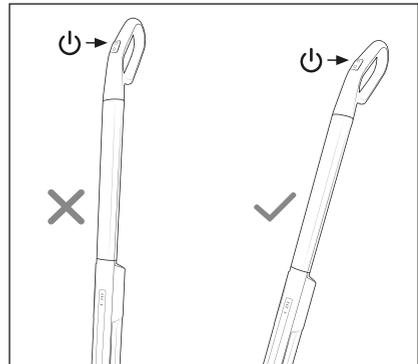

Fig. 8
- ▶ When not in the charger **9**, the appliance can only be switched on while the handle **1** is held at a slight angle (see Fig. 8).
- 2) Hold the handle **1** at a slight angle and press the On/Off switch **16** to switch on the appliance (see Fig. 8). The battery indicator **3** and the spray function / dirty water tank LED **4** light up and the roller brush **12** starts to turn. The spray function is automatically activated for 5 seconds, and this is then repeated every 15 seconds.